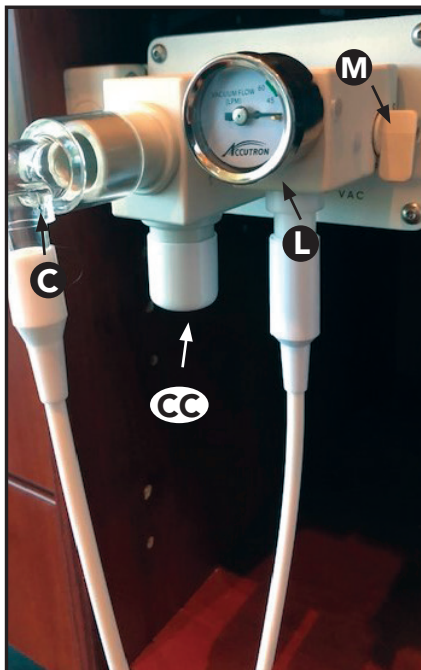

Figure 3
1. Remove the reservoir bag from the flowmeter and install the plug  per Figures 3, 5 and 8. Note: Plug will pop off if the gas flow line is kinked or blocked.
3. Connect right angle adapter  to bagtee outspout per Figures 3, 5 and 8.
4. **RFS™ Scavenging Circuits:** Connect the Axess™ RFS Circuit to the RFS Outlet per Figure 3. Fittings are sized to only fit one way.